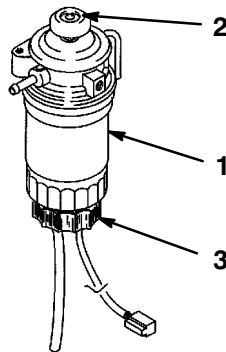

Figure 27
2. Press the primer button on top of the fuel filter until resistance is felt (Fig. 27).